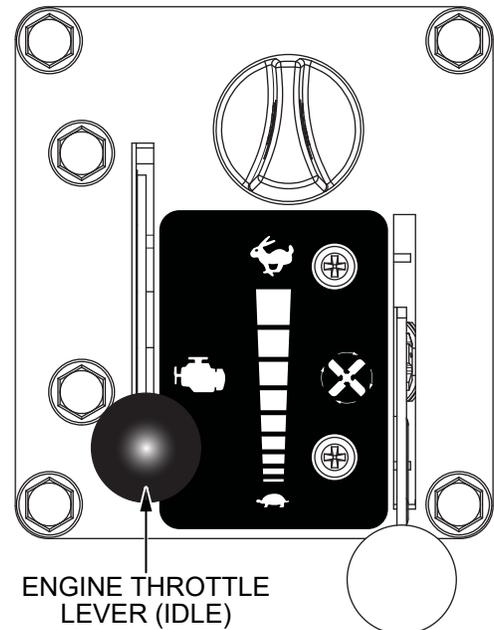

Figure 20. Engine Throttle Lever (Idle)
3. Place the engine throttle lever in the **IDLE** (turtle) position. See Figure 20.